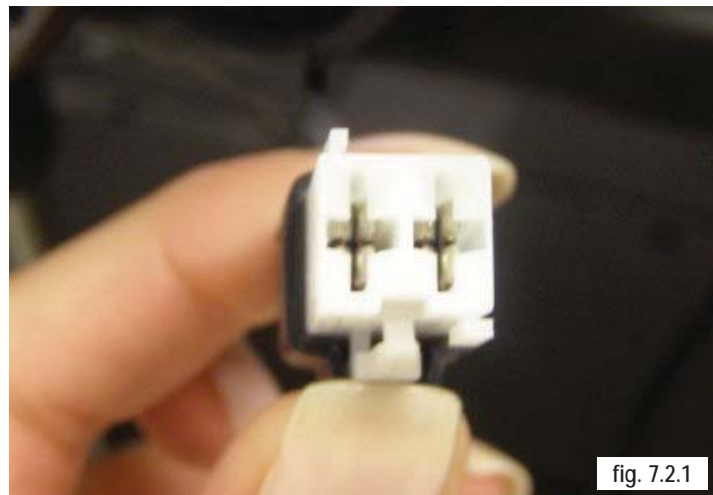

fig. 7.2.1
4. Check resistance at this 2 pin connection. (fig 7.2.1)